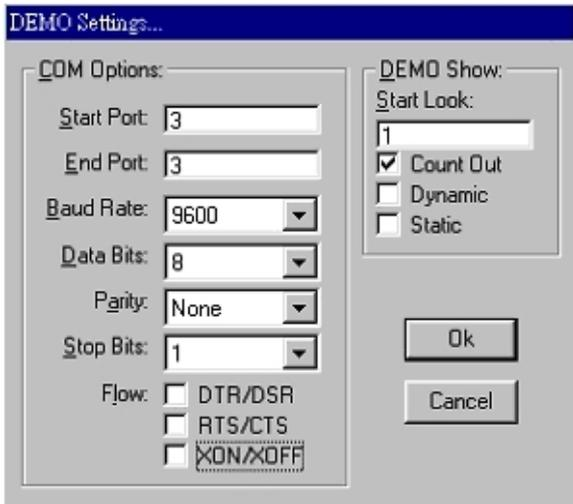

Fig.6
Step2.Click the “Setting” to set the RS-422 loop counter (See the Figure 6); your system will detect the COM3.